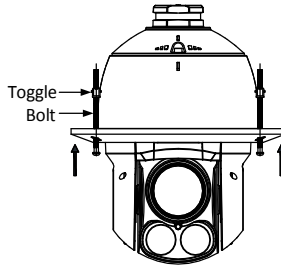

Figure 1-39 Install Toggle Bolts
- 4). Reinstall the toggles as shown in Figure 1-39.